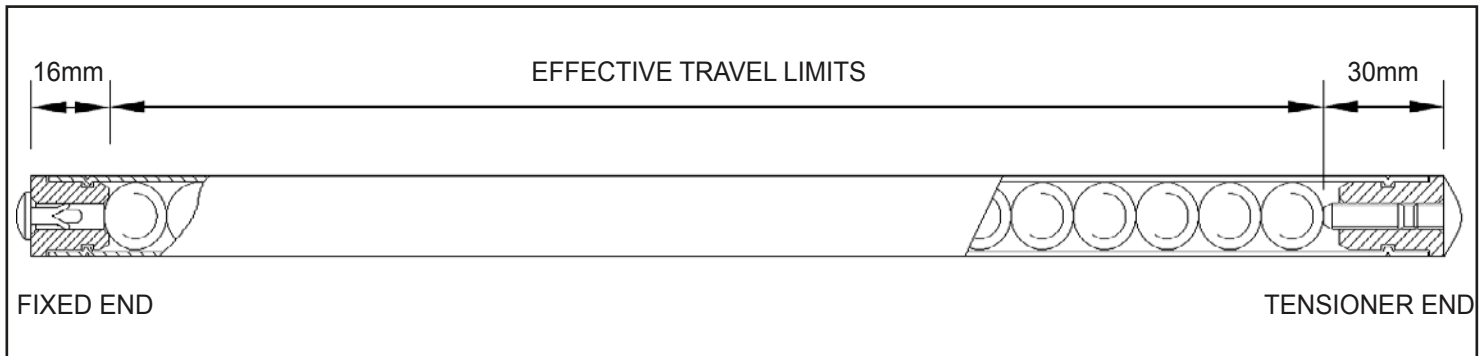

Figure 5.1 - Spherosyn 300 Scale
- (A) Erroneous readings will occur if the Reader Head is allowed to travel beyond the Effective Travel Limits. (Refer to Figure 5.1)
- (B) The pre-load on the balls are factory set via the set screw at the tensioner end. Do not tamper with or adjust the set screw as this will alter the calibration and accuracy specification of the scale. (Refer to Figure 5.1)